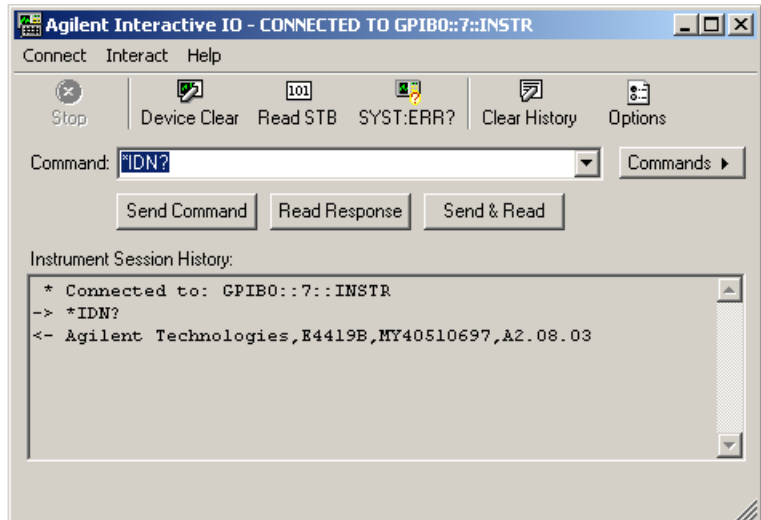

Figure 1-14 Keysight Interactive IO window
- 2 Right-click the instrument and click **Send Commands To This Instrument** to display the Interactive IO window as shown in Figure 1-14. For information of the Interactive IO, including a list of common commands and the commands' description, click **Help > Help Topics**.